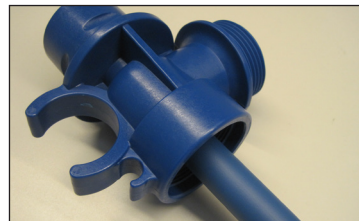

Figure 7 A & B
4. **Inner Tube & Center Support Removal** - To remove the inner tube and center support, turn the inner tube to unseat the o-rings (item 10) and then pull the inner tube away from the head. See Figure 7 A & B.